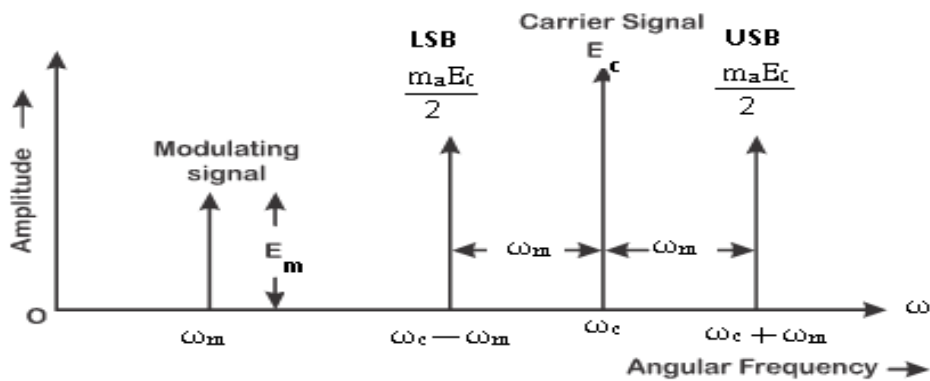

Fig. 2.4 Frequency Spectrum of AM
Fig 2.4 shows the frequency spectrum of an AM DSBFC wave with reference to frequency  $f_m$ .
Fig 2.4 shows the frequency spectrum of AM with reference to frequency.
- ❖ It is seen from the above Fig 2.4 that AM signal shifts the frequency of the intelligence from audio level  $f_m$  to carrier level  $f_c$ .